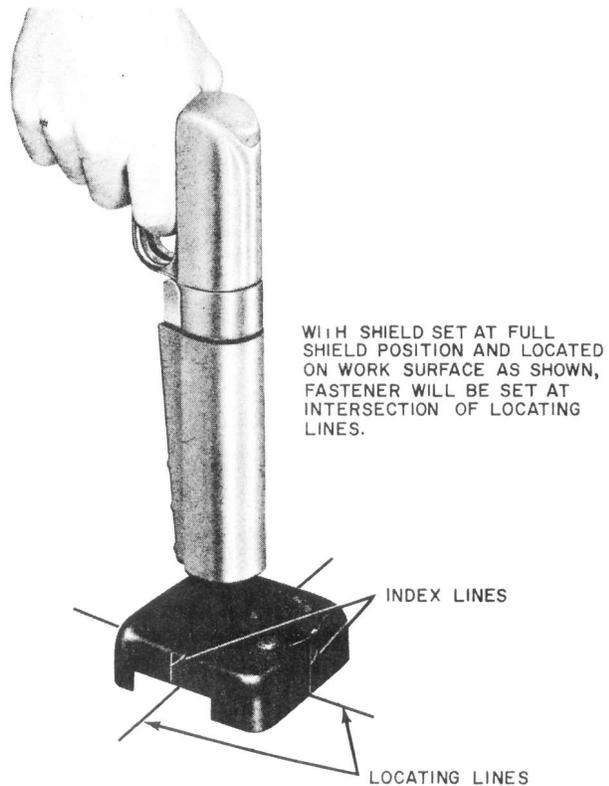

Fig. 4—Positioning Stud Driver on the Work Surface
4.03 With the shield at the full shield setting, the index lines on the sides of the shield may be used to locate studs by aligning the index lines with locating lines on the work surface as shown in Fig. 4.